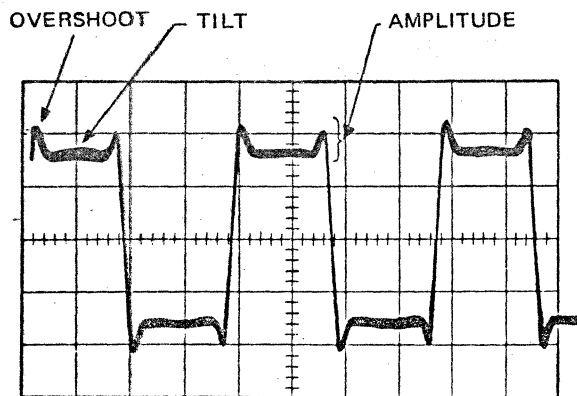

Figure 4. Equalization Waveform
- Step 6.* Monitor the reproduce board output at the output BNC connector or the board output testpoint, TP2, with an oscilloscope and check randomly frequencies from approximately 400 Hz to the upper band edge for each speed as shown in Table 4. At the reference frequency, per Table 1, ensure a good representation of a square wave similar to the ideal square wave in figure 4. Slight adjustment of the phase potentiometer on each equalizer may improve the square wave representation. If this slight adjustment is performed, re-check the frequency response in Steps 1 through 4.
- Step 9.* Record a few minutes, as desired, of each of the Table 1 frequencies at the indicated speed. While recording each frequency monitor the board output (BNC connector or output testpoint, TP2) with an oscilloscope and perform the following adjustments on the proper equalizer associated with the speed. Refer to figure 4.